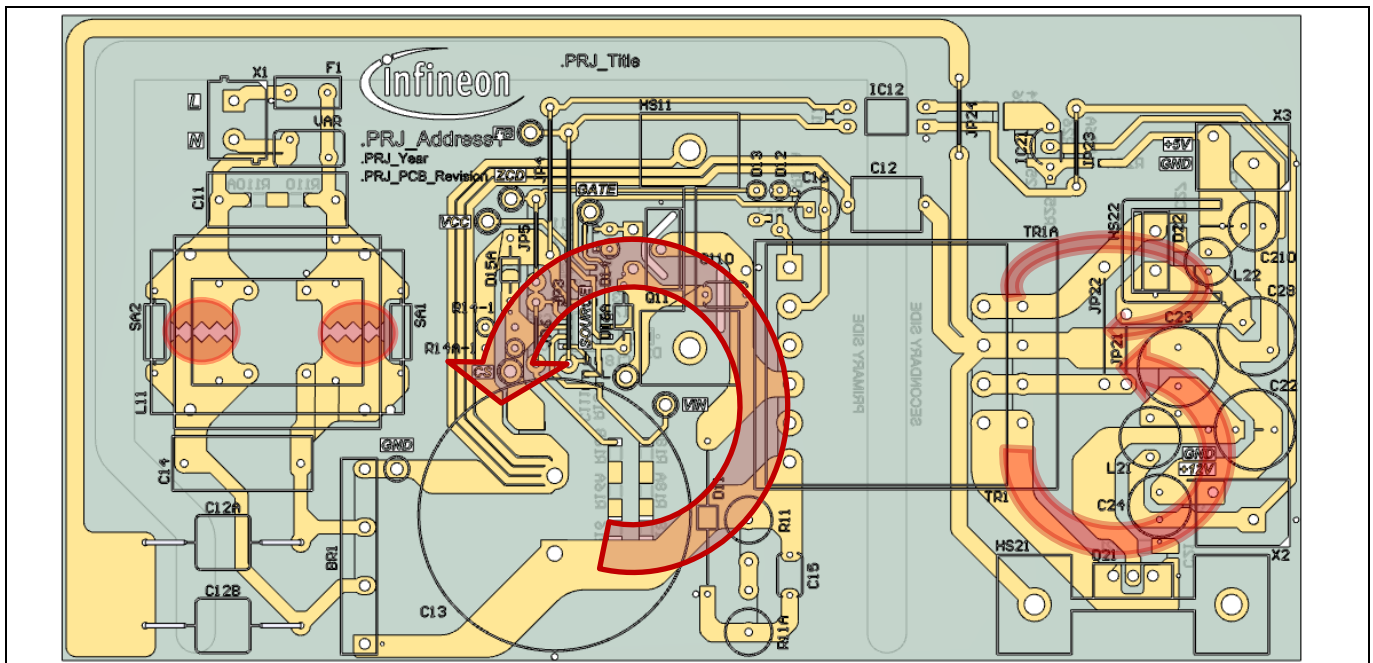

Figure 3 PCB layout tips
- The power loop needs to be as small as possible (see Figure 3). There are three power loops in the demo design; one from the primary side and two from the secondary side. For the primary side, it starts from the bulk capacitor (C13) positive to the bulk capacitor negative. The power loop components include C13, the main primary transformer winding (pin 6 and pin 4 of TR1), the power MOSFET (Q11) and the CS pin of the controller IC11 and CS resistors R14 and R14A. For the secondary side, the 12 V output starts from the secondary transformer windings (pin 8 of TR1), output diode D21 and output capacitors C22 and C23, while the 5 V output starts from the secondary transformer windings (pins 11 of TR1), output diode D22 and output capacitor C28.
- A star-ground concept should be used to avoid unexpected High-Frequency (HF) noise coupling, which can affect control. The ground of the small-signal components, e.g. C111, C17, C18, C19 and R19, and the emitter of the optocoupler (pin 3 of IC12) etc. should connect directly to the IC ground (pin 8 of IC11). Then it connects to the negative terminal of the C13 capacitor directly.
- Separating the HV and LV components e.g. clamper circuit D11, R11, R11A and C15 at the lower part of the PCB (see Figure 3) and the other LV components at the top part of the PCB can reduce the spark-over chance of the high energy surge during ESD or a lightning surge test.